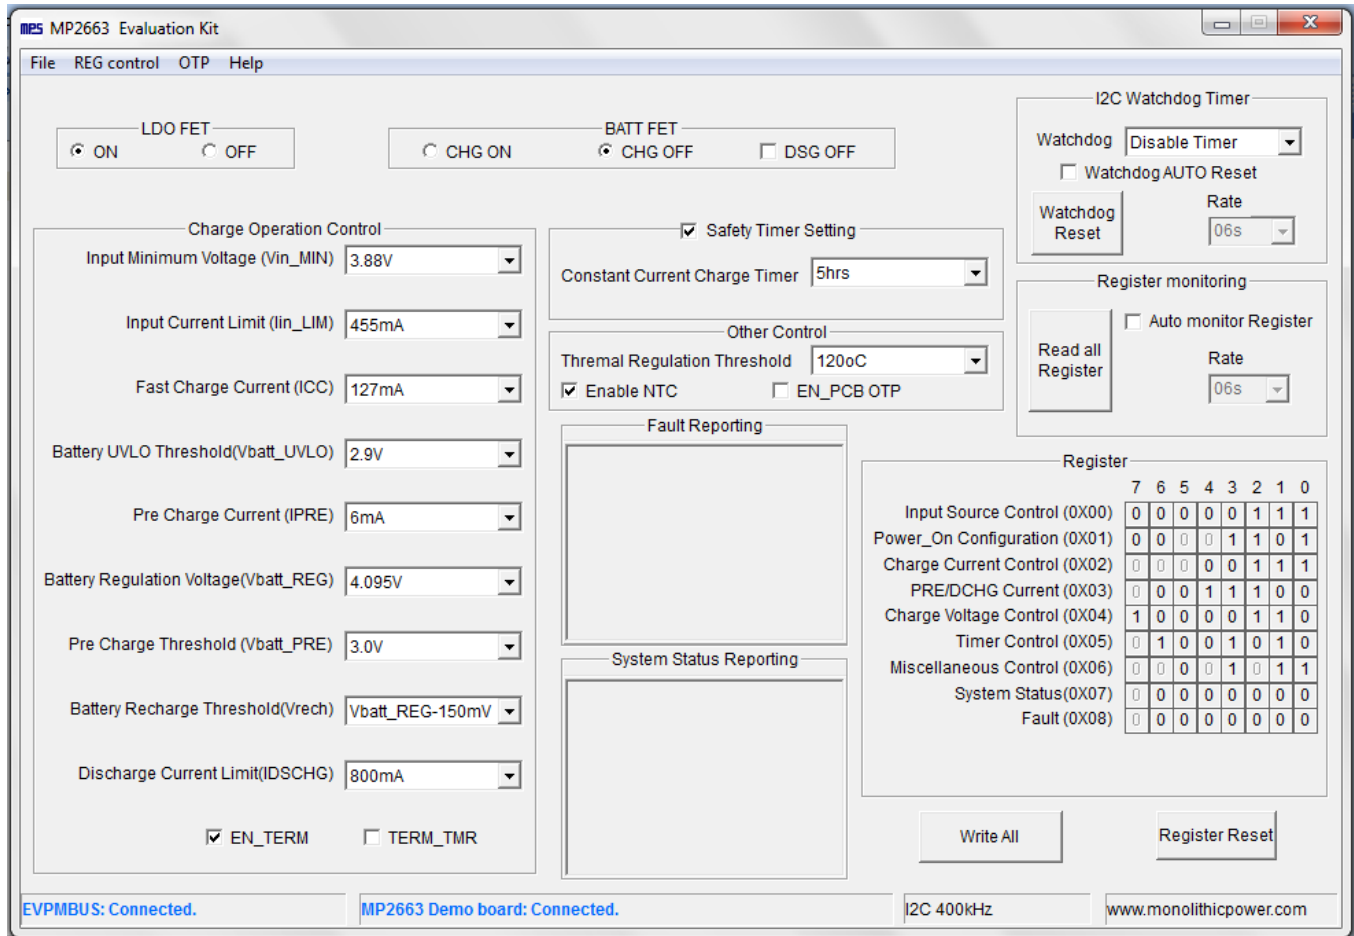

Figure 6: MP2663 evaluation software
5) Turn on the computer. Launch the MP2663 evaluation software. The main window of the software is shown in Figure 6.